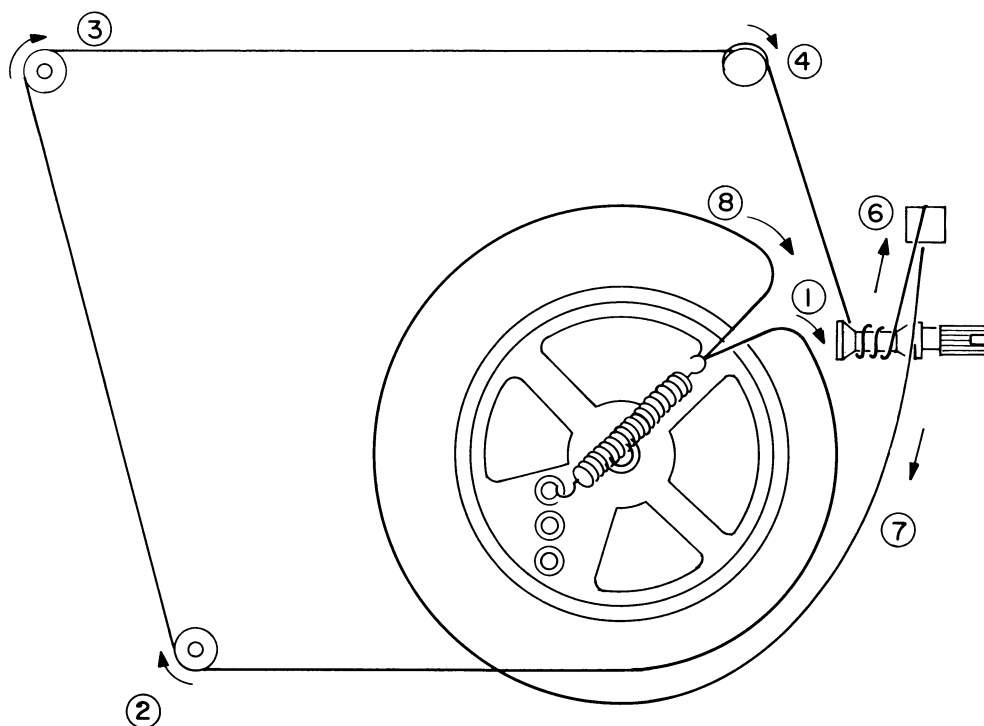

Fig. 16
3. Fit the cord in numerical order as shown in Fig. 16.